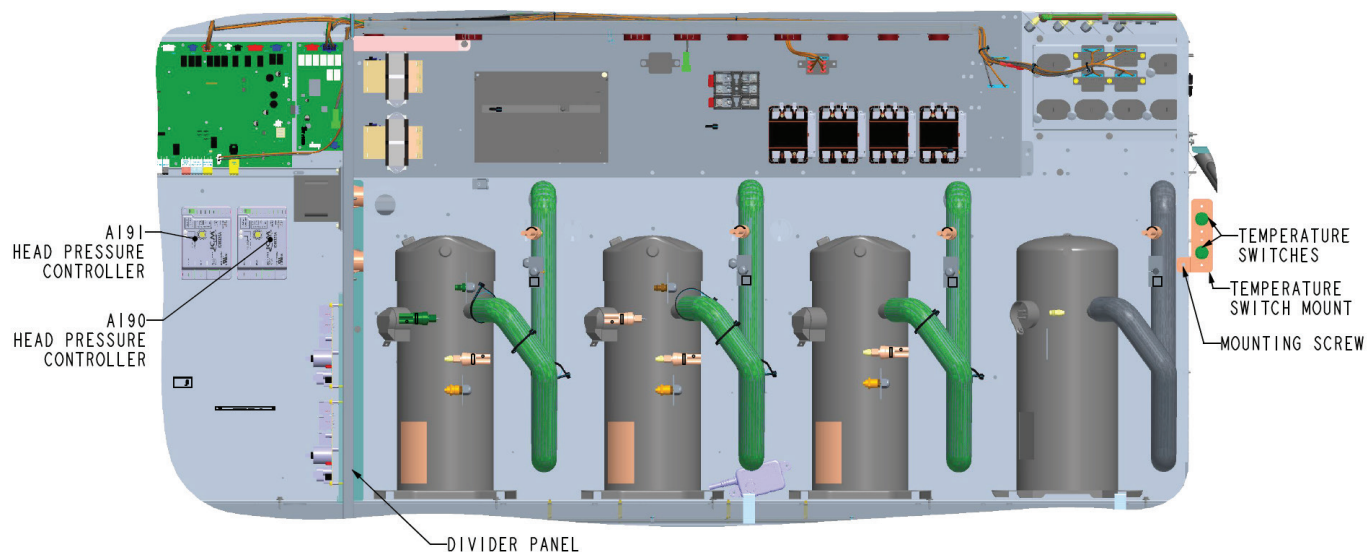

FIGURE 9
- 2 - Install head pressure controls (A190 & A191) in the control section as shown in FIGURE 9. Secure with screws (provided).
- 3 - Install the temperature switch mounting bracket onto the mullion. Align the bracket with the 4th screw from the top of the unit; secure with provided screw. See FIGURE 9.